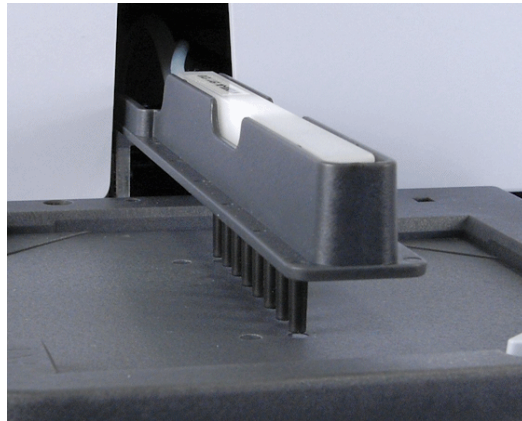

Figure 19. Alignment check
- Move the wash head arm up and down, and the plate carrier back and forth to ensure that they move freely (Figure 19).